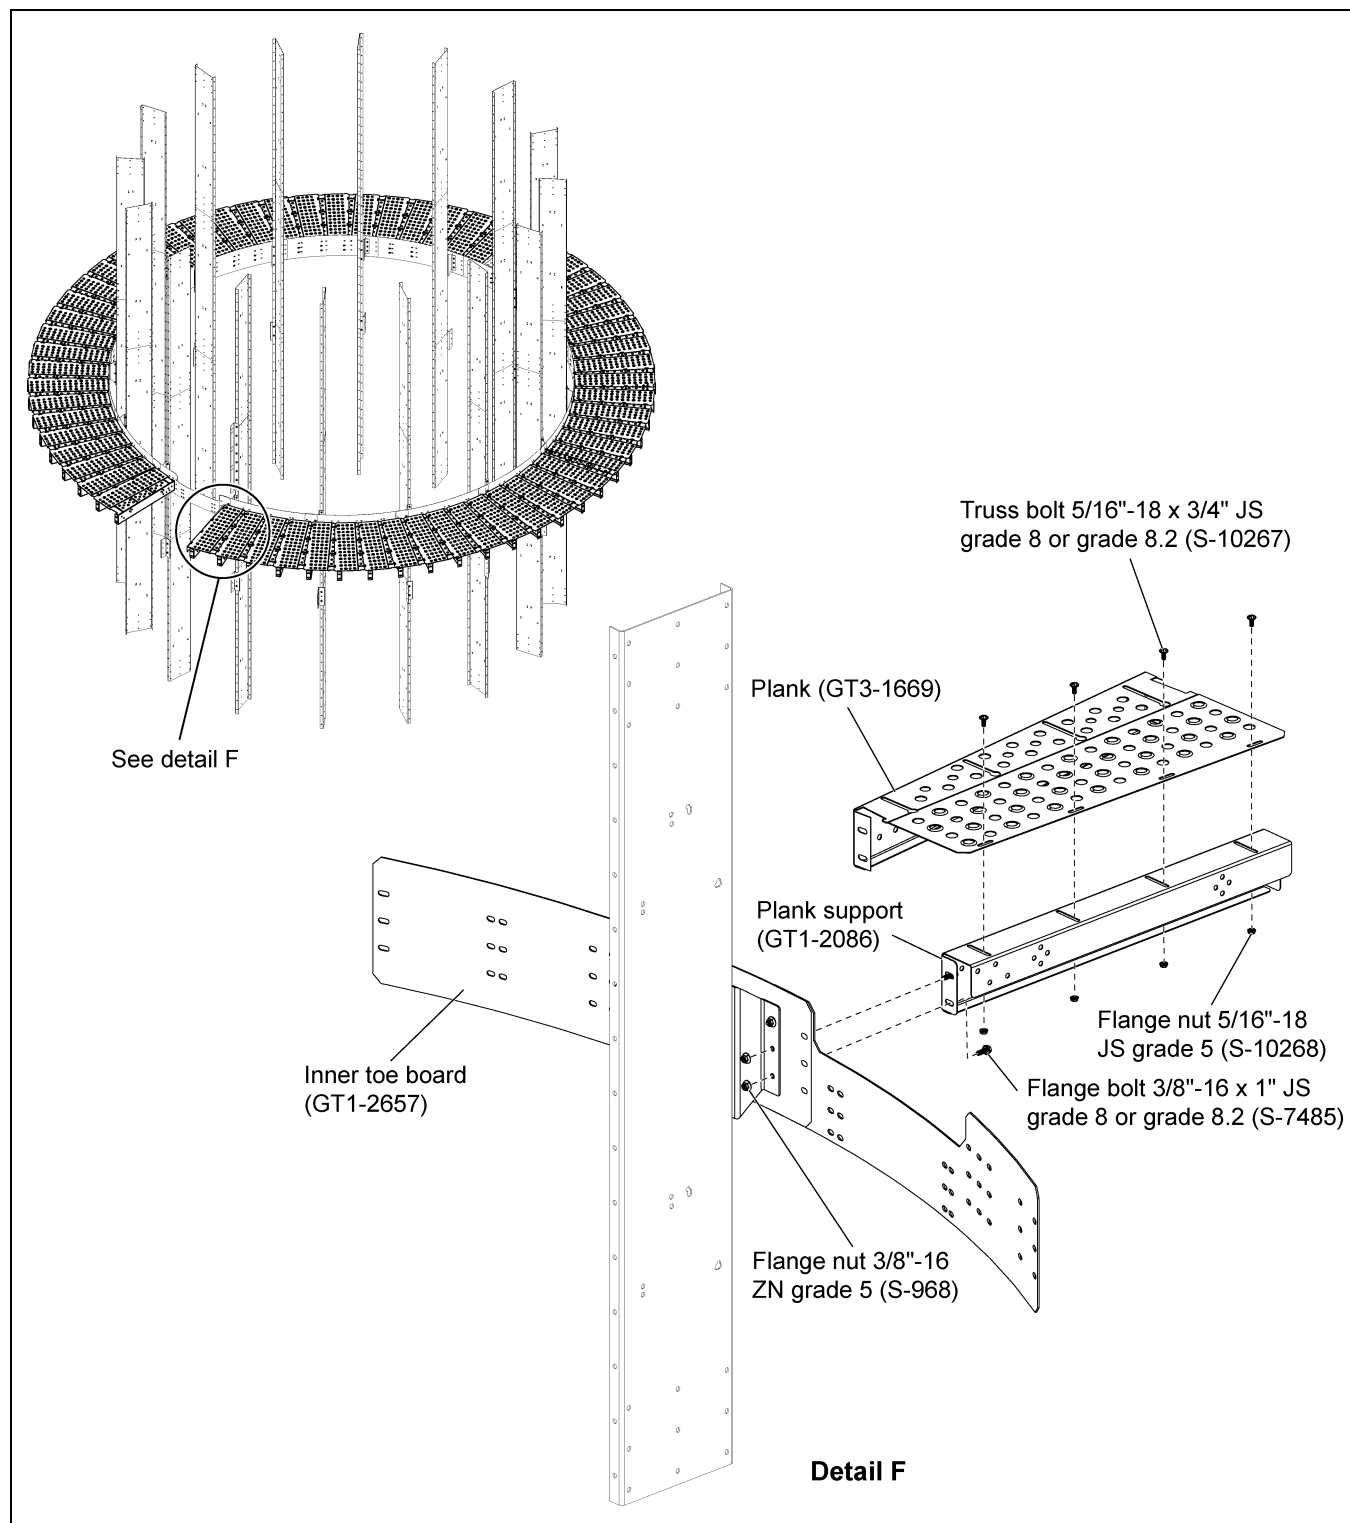

Figure 40
1. Once the planks are installed, install the plank support (GT1-2086) to the last plank (GT3-1669) using 5/16"-18 x 3/4" JS grade 8 or grade 8.2 bolts (S-10267) and 5/16"-18 JS grade 5 nuts (S-10268) and to the toe board (GT1-2657) using 3/8"-16 x 1" JS grade 8 or grade 8.2 bolts (S-7485) and 3/8"-16 ZN grade 5 nuts (S-968). (See Figure 40.)